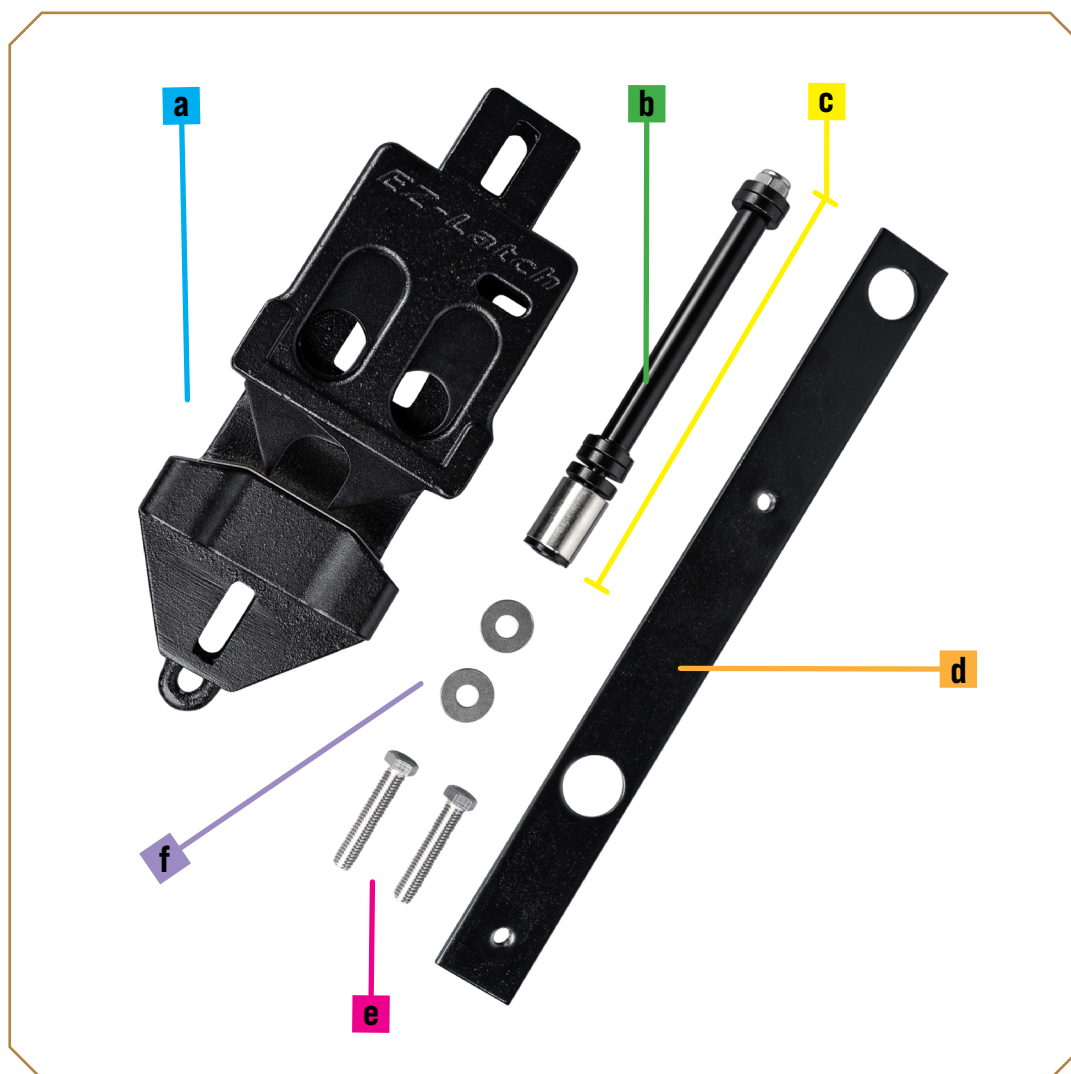

Figure 1
1. Place enough washers on the latch pin (Figure 1) to allow the end of the pin to clear the latch post by 1/2" or slightly more. Insert the 3/8" pin into the pre-drilled gate hole from the outside.